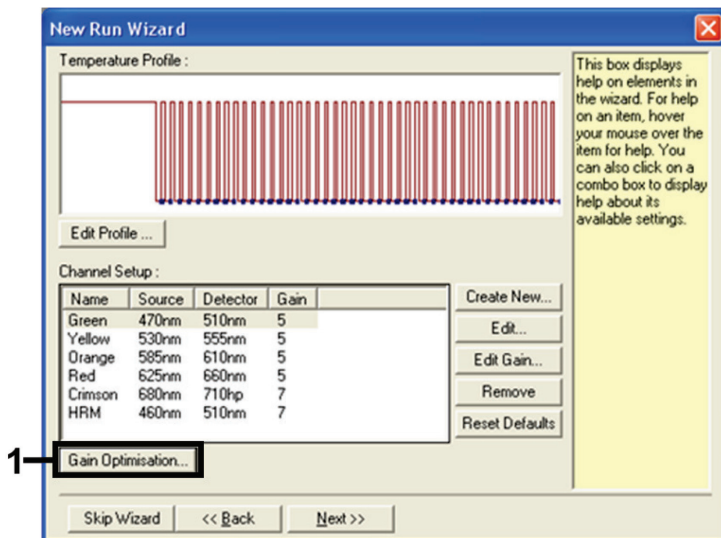

Figure 10. Gain optimization.
12. In the next dialog box, click **Gain Optimisation** (Figure 10).